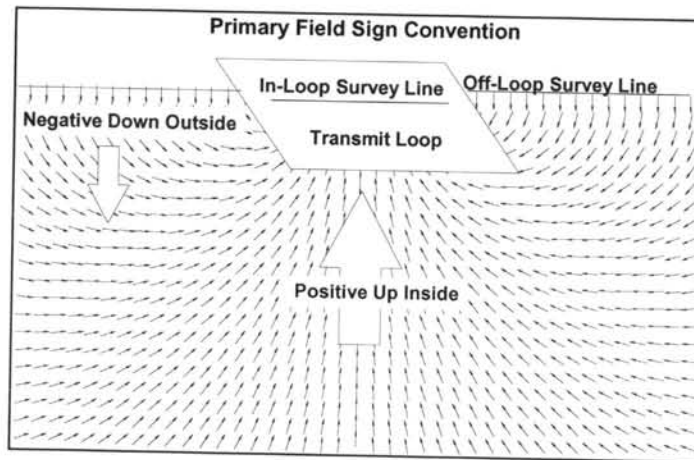

Figure B1: Primary field sign convention for TEM surveys.
TEM profiling is conducted on lines either adjacent to (Off-Loop mode) or surrounded by (In-Loop mode) a large fixed rectangular transmit loop. Current is passed through the loop which following the Turn-Off, produces a primary magnetic field (H) both inside and outside (Figure B1). This primary field induces a vortex current pattern, which energizes conductors and which in turn create their own secondary magnetic field (B_s). The rate of change of the decaying secondary magnetic flux (dB_s/dt) is measured as the vertical (H_z), in-line horizontal (H_x) and/or cross line horizontal (H_y) vector components on surface using an air-core sensor coil. These measurements of the TEM decay (20 log-time slices) are taken during the "Off-Time", using a 30 cycle/sec, base repetition rate.